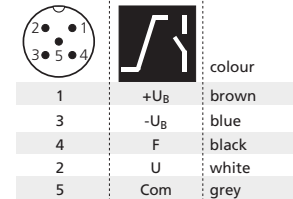

Fig.1: Pin assignment with view onto sensor plug and colour coding of the microsonic connection cables.
- Connect a connection cable to the M12 device plug, see fig. 1.